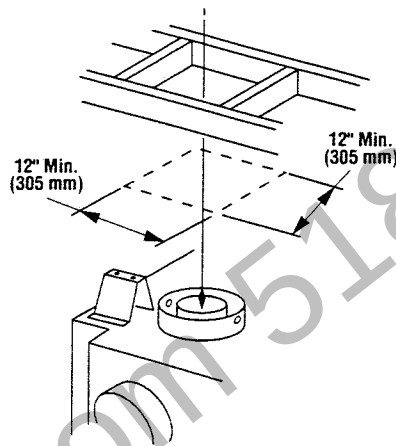
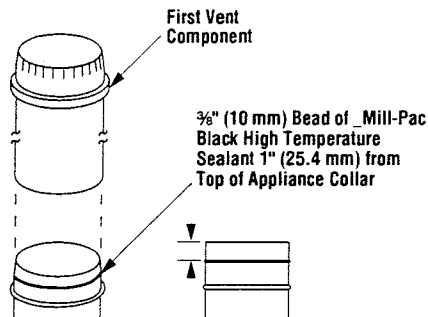

Figure 20
Figure 21
The Figures 20 through 23 and the Vertical Vent Table on page 8 illustrate the various vertical venting configurations that are possible for use with these appliances. The maximum vertical height is 30' (7.6 m) above the top of the appliance. Figures 21 through 23 along with their corresponding tables summarize each system's minimum and maximum vertical and horizontal values that can be used to design and install the vent components in a variety of applications.
A. Use a plumb line from the ceiling above the appliance to locate center of the vertical run. Cut and/or frame a 12" x 12" inside (305 mm x 305 mm) minimum opening about this center mark (Figure 20).
WARNING: A 3/8" (10 mm) BEAD OF _MILL-PAC BLACK (700°F) HIGH TEMPERATURE SEALANT MUST BE APPLIED TO THE INNER APPLIANCE COLLAR BEFORE THE FIRST VENT COMPONENT IS ATTACHED (FIGURE 21) AND TO ALL SUBSEQUENT INNER VENT CONNECTIONS. FAILURE TO SEAL ALL THE INNER JOINTS WITH THIS HIGH TEMPERATURE SEALANT MAY CAUSE THE APPLIANCE TO OPERATE IMPROPERLY.
B. The vent sections are crimped at one end to provide a slip fit for elbows and additional vent sections. To begin a vent run, apply _Mill-Pac Black (700°F) high temperature sealant to the inner joint, being sure of a 100% seal (Figure 21). Slide the 5" (127 mm) inner section onto the center appliance collar (Crimped end always upward.) Locate and transfer drill a 1/8" (3 mm) diameter hole through the collar at the two (2) punched holes (180° apart). Use two (2) No. 8 x 1/2" sheet metal screws to secure the section.